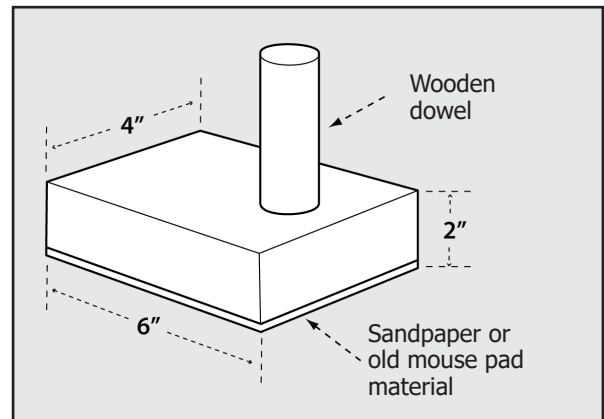

Figure 56
3. Glue a piece of rough or soft material such as sandpaper or rubber to the bottom of the block to grip the workpiece (old mouse pads work well). See Figure 56.